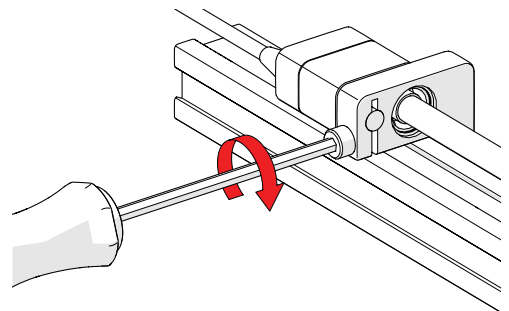

Fig. 46 - Tighten clamp screw
3. Tightening the 3 mm clamp screw on the index encoder support bracket (*Fig. 46*).